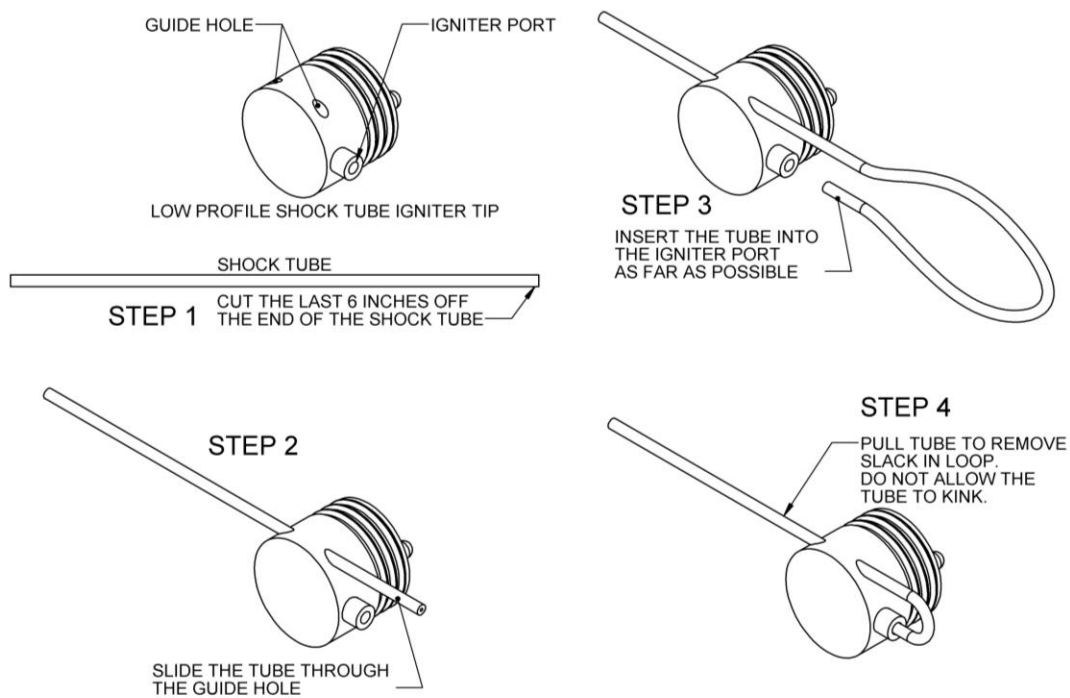

Figure 2-13 Firing Tip, Shock Tube
2.11.1. **Shock Tube Initiation.** The shock tube initiator circuit ignites the explosive powder contained inside of the shock tube creating a dust explosion which transverses through tube at a high rate of speed toward to the detonator. The Remote Unit develops a high-energy spark at the igniter needle located in the Igniter Port shown in Figure 2-13 of the firing tip. Care must be taken to ensure no water or moisture is allowed on or near the igniter needle, or misfires may occur. Keep the tip clean and dry before use and keep the shock tube ends capped at all times. Once the shock tube is installed onto the igniter needle, the unit may be operated in the rain.
2.11.2. **Shock Tube Installation on Firing Tip.** Figure 2-13 shows the shock tube firing tip and how the shock tube is installed.
2. Insert the shock tube through the guide hole on the tip as shown in Figure 2-13. The guide hole secures the tube to the tip and prevents pulling out.